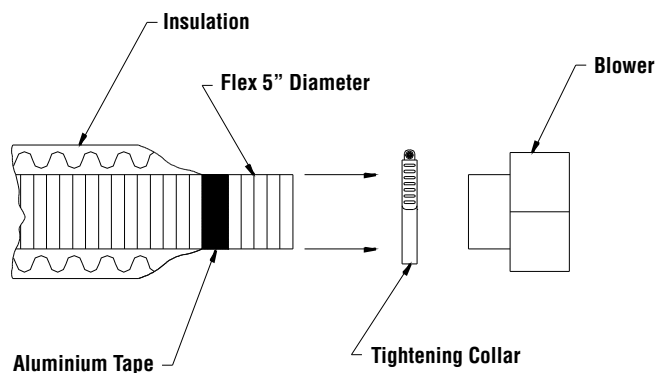

Figure 24
E) Attach the flexible pipe to the fan, using the collars (**Figure 24**).